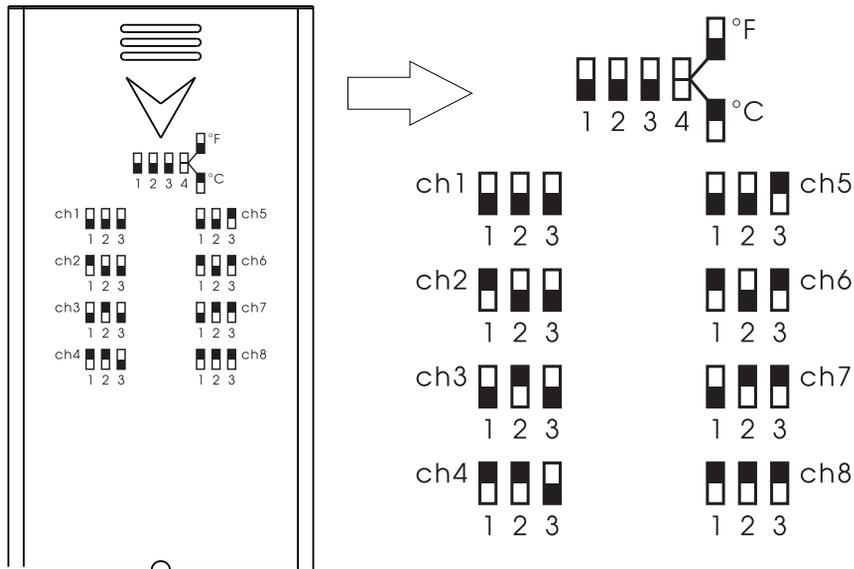

Figure 5.
5. Temperature unit of Measure: To change the sensor display units of measure (F° or C°) change Dip Switch 4, as referenced in Figure 5.